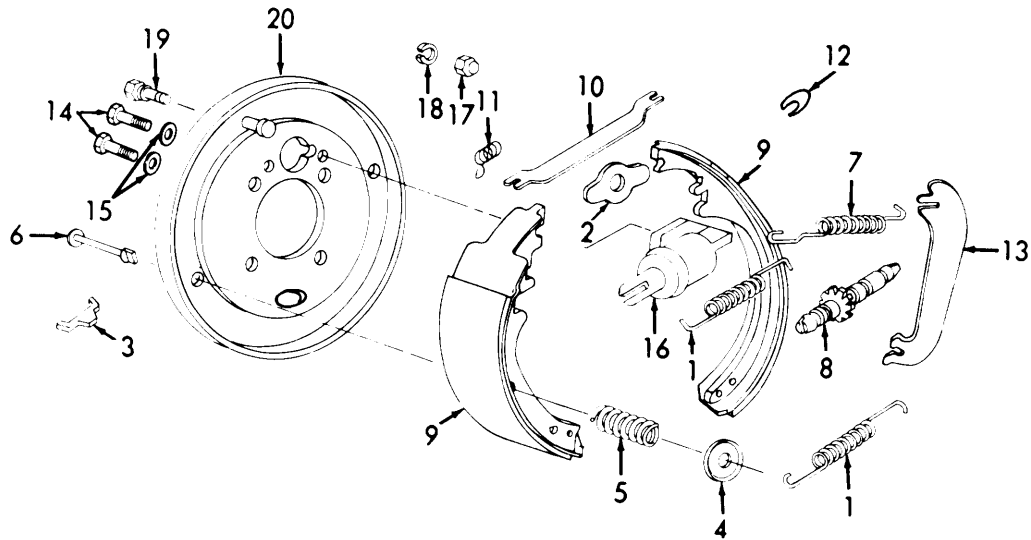

Figure 3-46. Brakes, Installation and Adjustment.
- (1) Aline back plate (20, Figure 3-46) install four bolts (19), four lockwashers (18), and four nuts (17).
- (2) Aline wheel cylinder (16) on back plate (20), install two washers (15), and two screws (14).
- (3) Connect hydraulic line to wheel cylinder.
- (4) Install lever (13) and retainer (12) to brake shoes (9).
- (5) Install spring (11) and strut (10).
- (6) Install adjusting screw assembly (8) and brake shoes (9).
- (7) Connect brake cable to lever (13).
- (8) Install adjusting assembly spring (7).
- (9) Install hold down rod (6), hold down spring (5), and hold down cup (4).
- (10) Install cover (3), guide shoe (2), and hold down springs (1).
- (11) Rotate adjustment wheel to pull brake shoes towards each other to allow installation of drum.